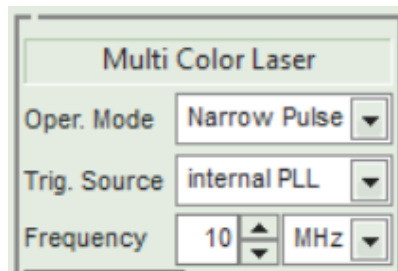

Figure 16: spin edit box "Frequency"
- Choose the option **internal PLL** to use the *PRIMA*'s internal clocks for triggering the picosecond and nanosecond pulses. Upon selecting this option, a spin edit box labeled **Frequency** appears, which allows setting the repetition rate from 1 kHz to 200 MHz or from 1 kHz to 100 MHz in case of ns pulses, see Fig. 16. The frequency unit (kHz or MHz) can be selected from the selection box next to it.